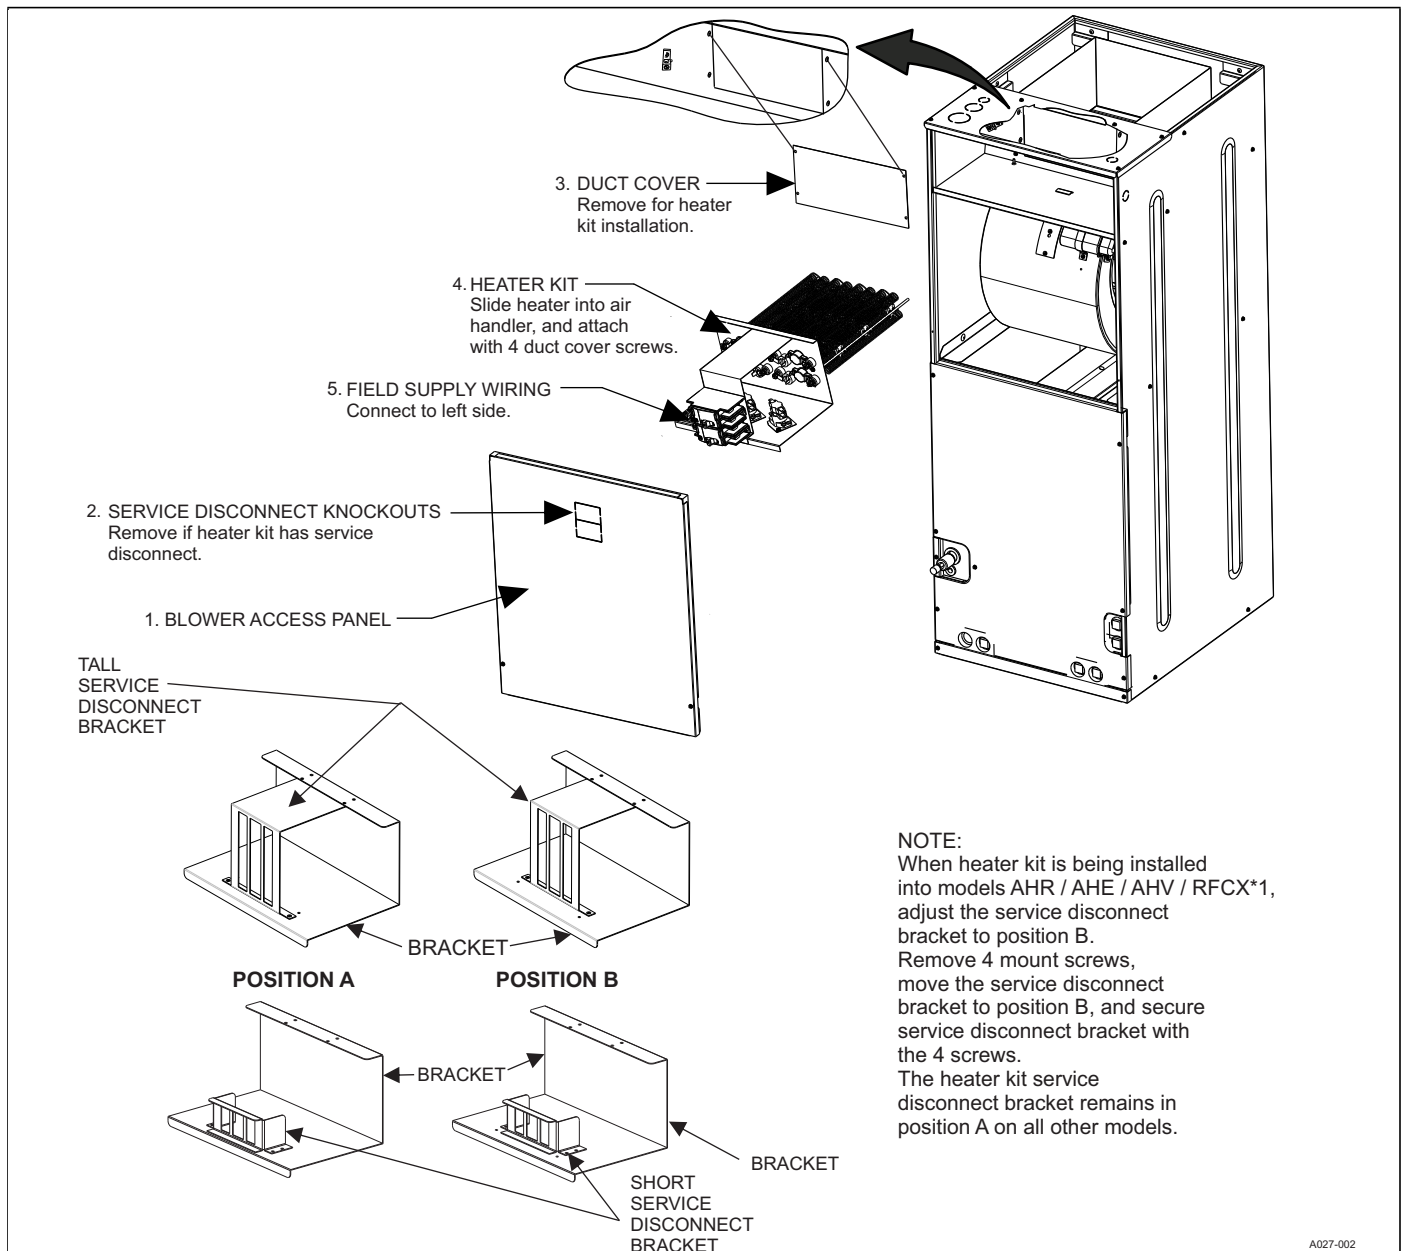
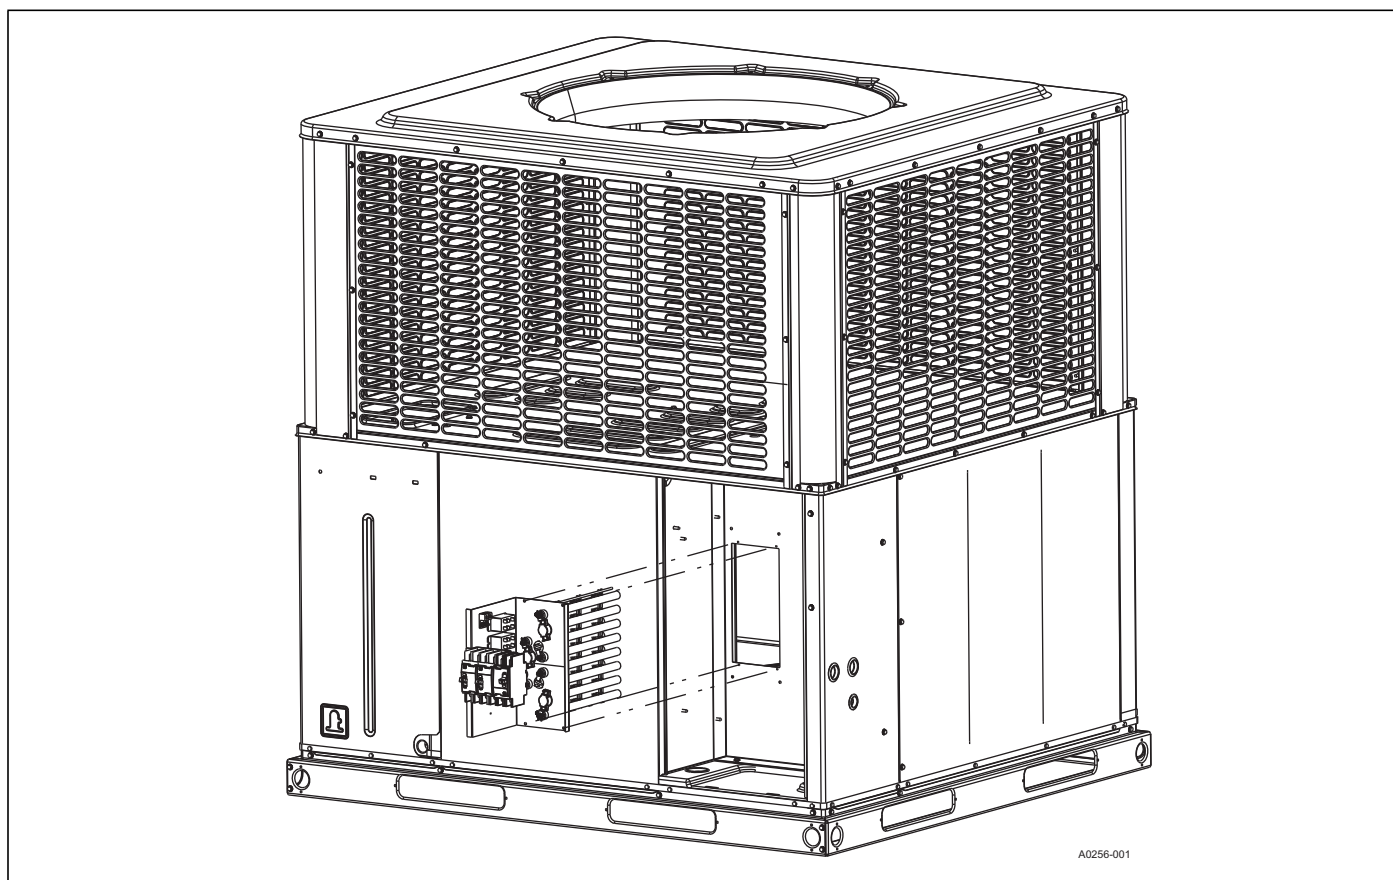

FIGURE 2: Air Handler Heater Installation (AHR / AHE / AHV / RFCX*E1 / RFCX*P1)
FIGURE 4: Respac Heater Installation (PHE / PCE)
Installation is the same for all air handler operating positions: upflow, downflow, and horizontal right or left. Installation of the Heater Kit should be done prior to unit installation. Refer to Figure 2 or 3 for depiction of components.
3. If the heat kit is being installed in model AHR, AHE, AHV or RFCX*1, move the service disconnect bracket to Position B as shown in Figure 2.
Installation is the same for both Respac models. Installation of the Heater Kit should be done prior to unit installation. Refer to Figure 4 for depiction of components.
3. Remove and discard the patch plate exposing the opening for the installation of the electrical heat kit. Refer to Figure 4.
The 24 volt power supply is provided by an internally wired low voltage transformer which is standard on all air handler and Respac models. Field supplied low voltage wiring can exit the unit on the top right hand corner of the air handler or the right hand side panel of the air handler (refer to Figure 2 or 3). Respac models have provisions for low voltage wiring exits in the bottom or right side of the unit (refer to Figure 4). Remove desired knockout and pierce foil faced insulation to allow wiring to pass through. Use as smallest hole possible to minimize air leakage. Install a 7/8" plastic bushing in the selected hole and keep low voltage wiring as short as possible inside the control box. To further minimize air leakage, seal the wiring entry point at the outside of the unit. The field wiring is to be connected at the screw terminals of the control board or on low voltage wiring leads using twist-on wire connectors.